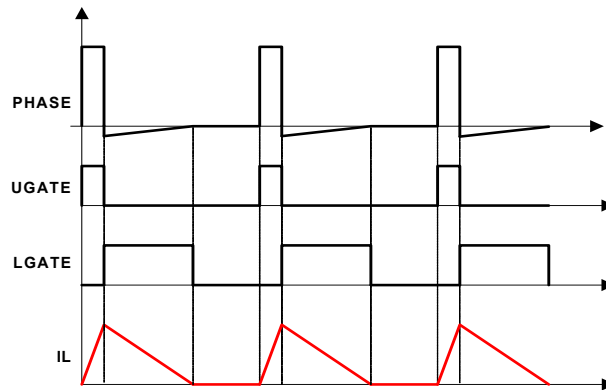

Figure 28. Diode Emulation
The R3 modulator can operate in Diode Emulation (DE) mode to increase light-load efficiency. In DE mode, the low-side MOSFET conducts when the current is flowing from source-to-drain and does not allow reverse current, emulating a diode. As shown in Figure 28, when LGATE is on, the low-side MOSFET carries current, creating negative voltage on the phase node due to the voltage drop across the ON-resistance. The IC monitors the current by monitoring the phase node voltage. It turns off LGATE when the phase node voltage reaches zero to prevent the inductor current from reversing the direction and creating unnecessary power loss.
If the load current is light enough, as Figure 28 shows, the inductor current reaches and stays at zero before the next phase node pulse and the regulator is in Discontinuous Conduction Mode (DCM). If the load current is heavy enough, the inductor current never reaches 0A and therefore, the regulator is in CCM although the controller is in DE mode.